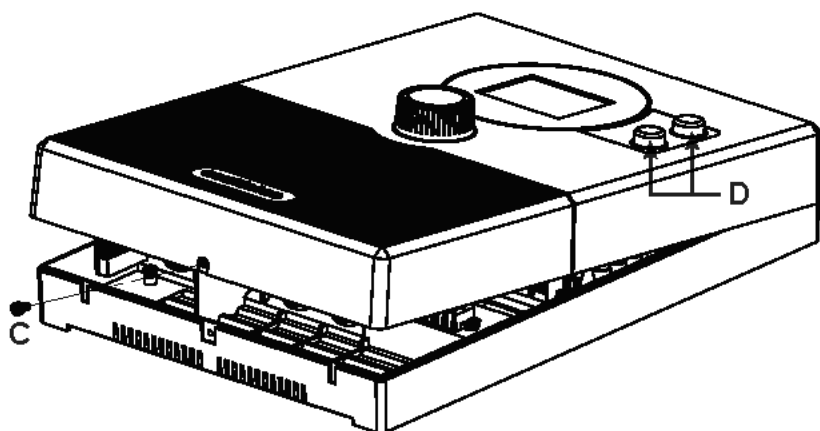

Fig. 2 Remove housing cover
2. Use a screwdriver to remove housing screw **C** and lift off the housing cover from the underside (see Fig. 2).